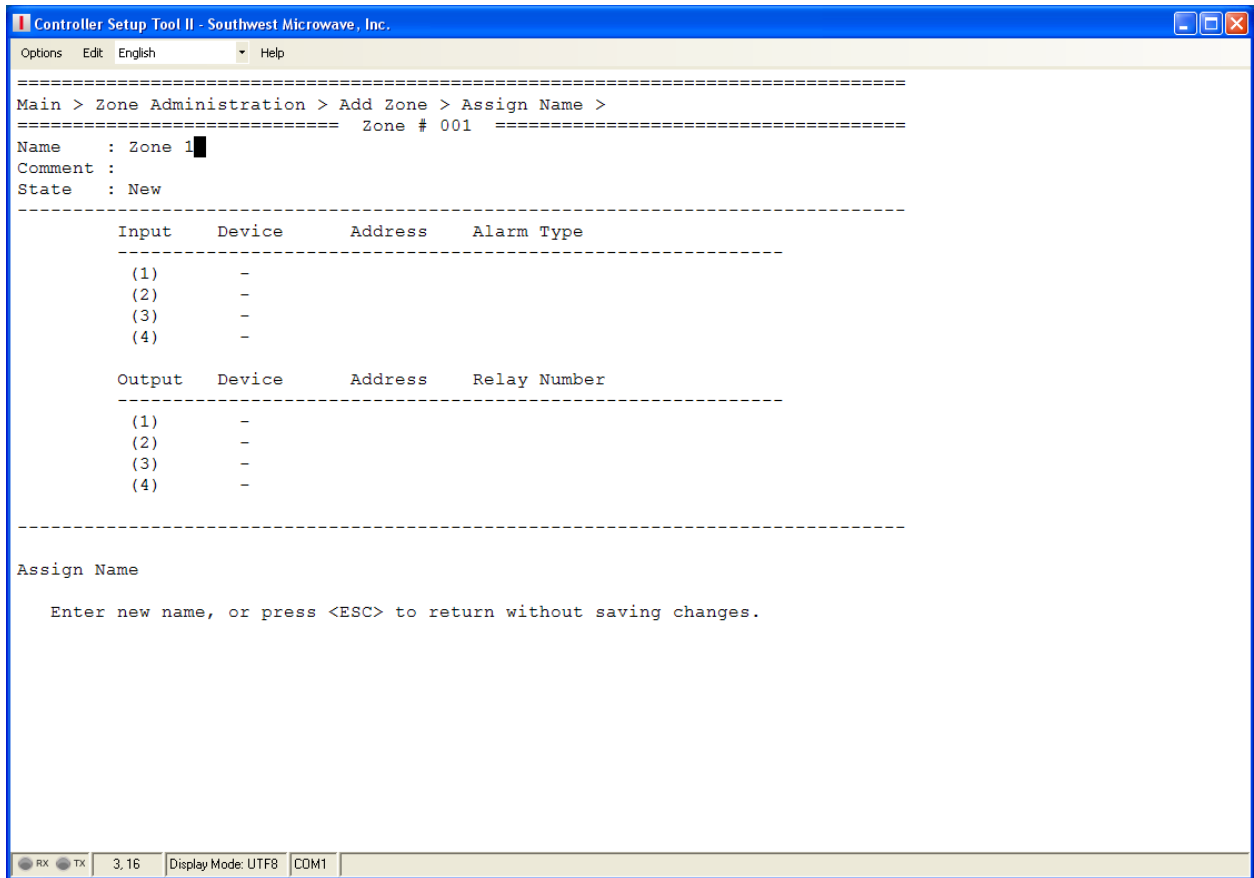

Figure 35 – Add Zone Name and Comment Screen
Selecting command 1 opens the “Assign Name” field that allows for naming of the Zone Record as shown in Figure 35. The name can be up to 64 characters long. This name is used for reference only. The name will be shown in the “List All Zones” function. Press enter to complete.
Selecting command 4 opens the “Assign Relay Output” field that allows entering of outputs to the Zone Record. The Zone Record can have a maximum of four (4) outputs assigned as shown in Figure 35. The available outputs are determined by the devices that were found during the Device Discovery process. Outputs that would be available for assignment are: